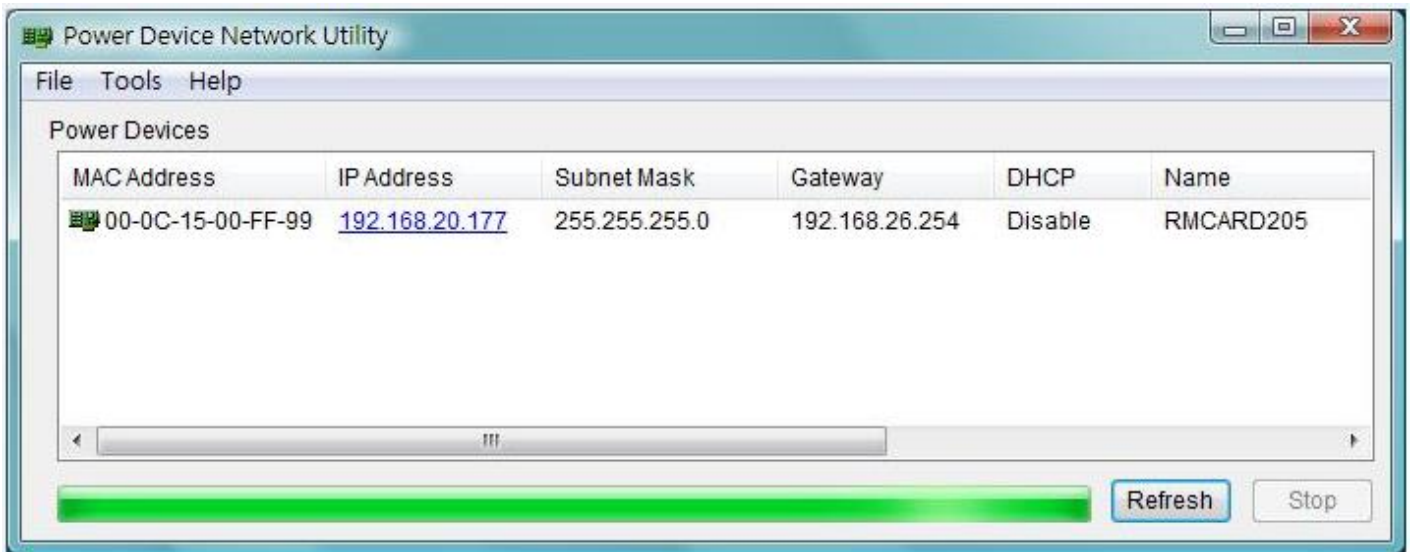

Figure 1. The main window of the “Power Device Network Utility” program.
3. The main dialog of the Power Device Network Utility program is shown in Figure 1. The configuration tool will display all CyberPower Remote Management devices present on the same network subnet. The "Refresh" button is used to search the local network subnet again.